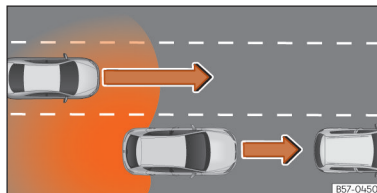

Fig. 151 Overtaking with traffic behind the vehicle.
- When being overtaken by another vehicle »» **Fig. 151**.